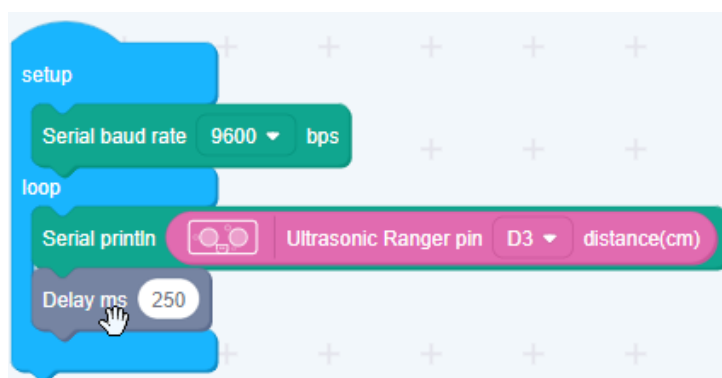

Figure 8.3: Codecraft Ultrasonic Ranger Setup
19. Set up your workspace as it is shown in Figure 8.3. You can easily find the correct nodes via looking at their colors.